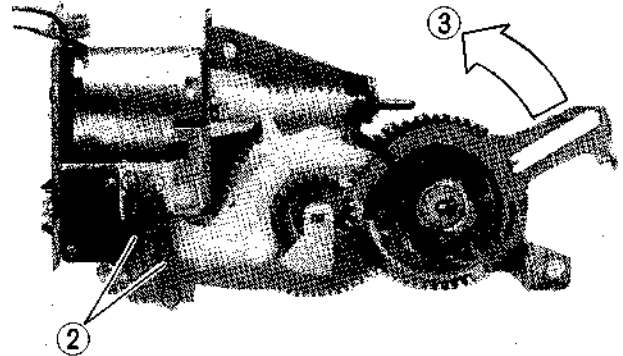

Fig. 10 Drive Gear (I)
10. Drive Gear (R) (Figs. 10, 11 and 12)